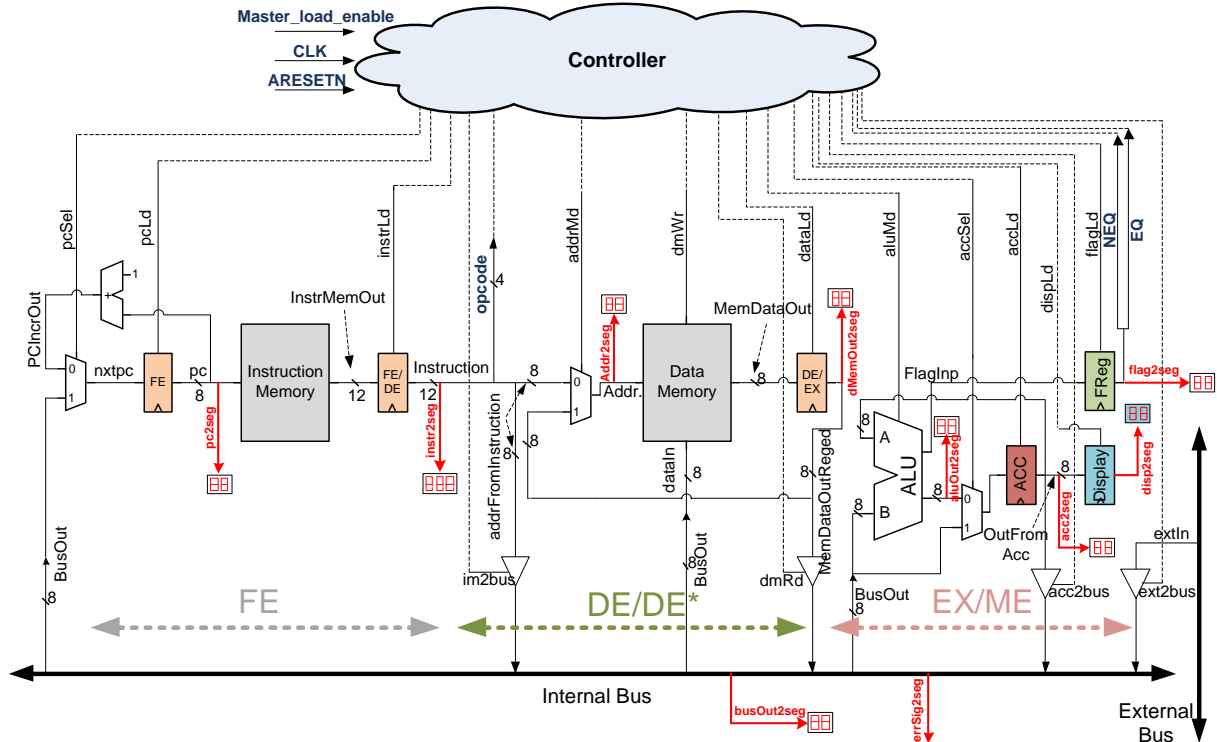

Figure 1: ChAcc processor datapath
The top-level design of ChAcc processor includes a) the implementation of datapath modules such as memory, registers and the bus, b) initialization of memory components and c) connecting all the datapath components together, assuming the controller as a black box. The datapath of ChAcc is depicted in Figure 1.
The goal of this task is to implement the Bus. The bus is depicted at the bottom of Figure 1 while its interface (inputs/outputs) is presented in detail in the processor's specification document. In Figure 1, it is designed using tri-states buffers (described in lecture 3). However, the tri-state buffer-based implementation suffers from the drawback that the bus output takes an undefined value if more than one control signal is enabled.
In the previous two tasks, you implemented the storage modules and the bus. The rest of the modules are ready from the previous labs. The adder ($PC=PC+1$) on the top left corner of the datapath can be implemented either by using a ripple carry adder or by expressing it in behavioral code. Verify that you have all the modules by looking at Figure 1. The final task is to
implement the top-level design of the ChAcc processor datapath by connecting the modules, as is exactly depicted in Figure 1, using structural VHDL (components and port maps).
In the main *Architecture Body*, write all the needed port maps. Some modules, e.g., the register, will require generic maps. The controller, which is implemented in the next lab, is assumed to be a black box. A mock controller is given (**procController.vhd**) to be able to connect the control signals (output from the controller) to the datapath components. Internal signals are also needed when connecting components to each other. These signals must be declared in the declaration region of the *Architecture Body*. Use the same names, as used in Figure 1. In cases a signal name is not given, give a name yourself. Use descriptive names (e.g., InstrToInstrReg), as they become very useful when debugging.
Finally, in Figure 1, note that some signals are connected to 7-segment displays, except for the bus error signal (1-bit) which is connected to a led. These signals must be connected to the respective output signals that are mentioned in the entity below. The other input signals of the entity (*CLK*, *ARESET* and *Master_load_enable*) are explained in the document processor.pdf.
externalIn : in  STD_LOGIC_VECTOR (7 downto 0); -- "extIn" in Figure 1
3. Write a VHDL module that implements the top-level design of the ChAcc datapath. Connect all the modules using Figure 1. Assume that the controller is a black box. Compile your file in ModelSim and show the VHDL code to the instructor. You cannot simulate the design since the real controller is still missing.